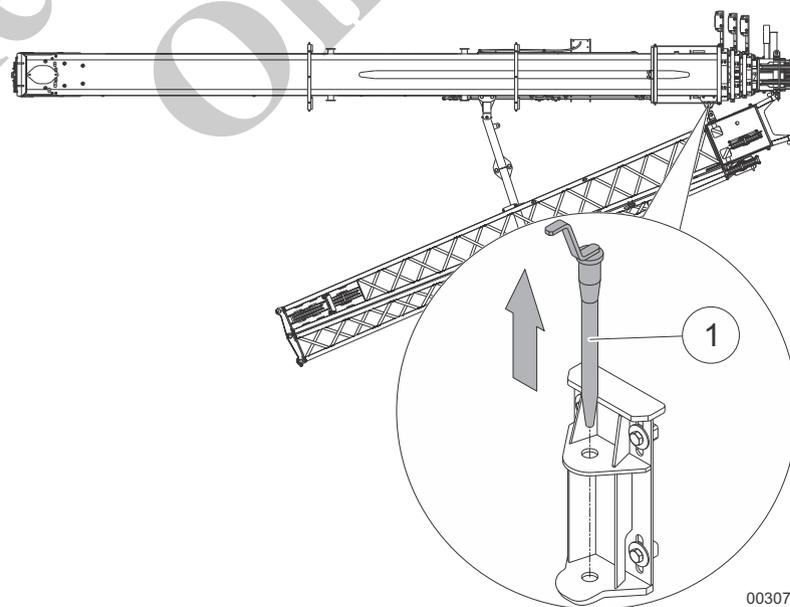

Fig. 125 Releasing the fly boom lock
- 16 Release and remove the vertical bolt (1) in Fig. 125 on the basic body.
- 19 Insert and secure the vertical bolt (1) in Fig. 125 into the fly boom lock on the basic body.